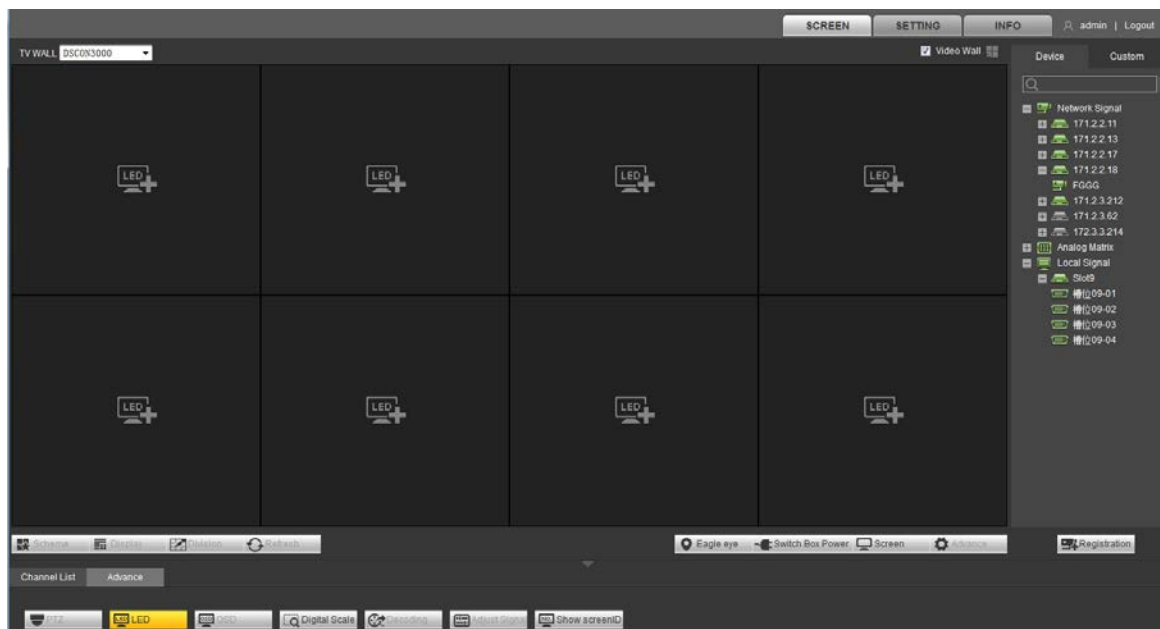

Figure 3-30
Step 1 Click , and the system displays Figure 3-30.